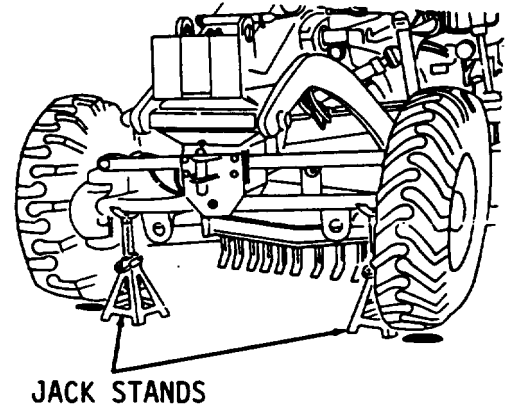

Figure 5-81.
3. Raise front axle off ground with jack and support with two Jack stands (Figure 5-81).